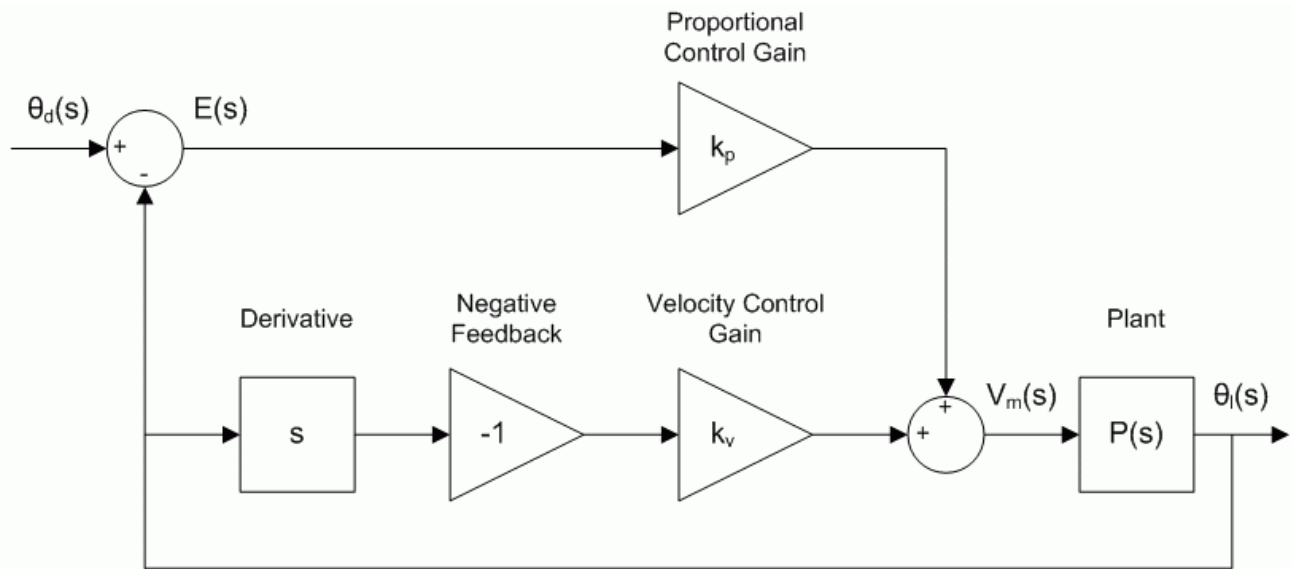

Figure 7: Block diagram of SRV02 PV position control.
where  $k_p$  is the proportional control gain,  $k_v$  is the velocity control gain,  $\theta_d(t)$  is the setpoint or reference load angle, and  $\theta(t)$  is the measured load shaft angle, and  $V_m(t)$  is the SRV02 input voltage. The block diagram of the PV control is illustrated in Figure 7.
1. Find the closed-loop SRV02 position control transfer function,  $\Theta(s)/\Theta_d(s)$ , using the time-domain PV control in Equation [8], the block diagram in Figure 7, and the process model in [2]. Assume the zero initial conditions, thus  $\theta(0^-) = 0$ .
and it can be obtained by taking the Laplace transform of [8] or using the block diagram in Figure 7. Substituting this into the process transfer function in [2] and solving for  $\Theta(s)/\Theta_d(s)$  gives the SRV02 closed-loop transfer function